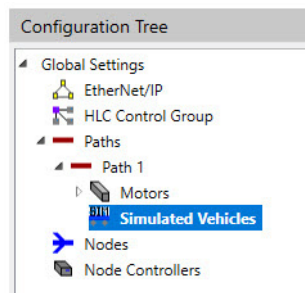

Figure 4-134: Configuration Tree with Simulated Vehicles Selected
4. In the Configuration Tree, select **Simulated Vehicles**, see Figure 4-134.